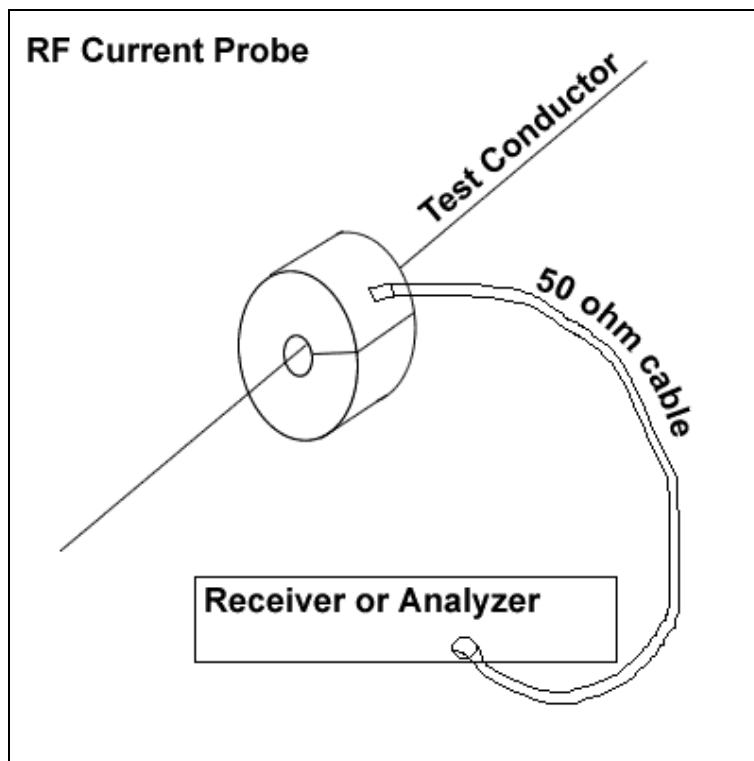

figure 1
Typical Current Probe installation is show in Figure 1. The probe should be placed over the cable and clamped shut. The cable connecting the probe to the receiver must have 50Ω characteristic impedance and matching cable connectors. The cable must be well shielded since any leakage will cause erroneous readings. The receiver must have 50 ohm input impedance.
**Assume that the frequency of interest is 80 KHz and we need to find the current at this frequency. Connect the probe per figure 1**